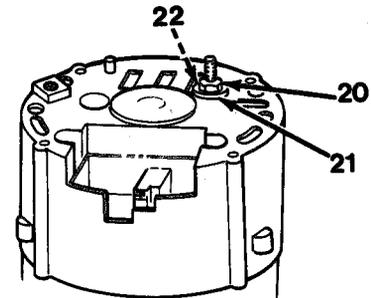

Figure 10-7
6. Remove nut (20), washer (21) and two insulator washers (22, Figure 10-7) from back of rear housing.